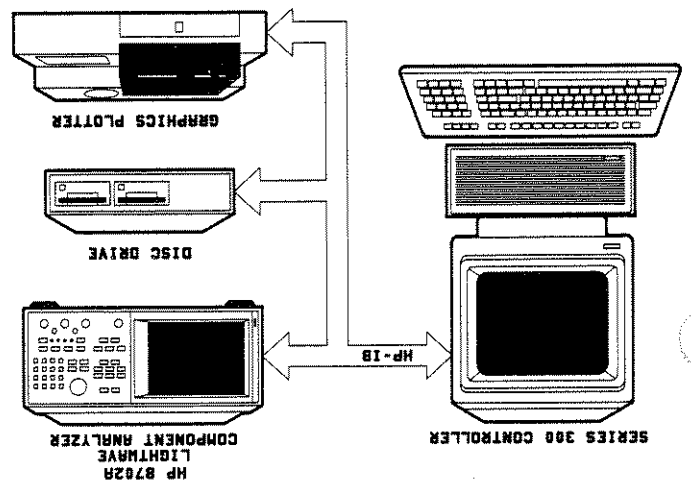

Figure 1. HP-IB connections in a typical setup.
1. Set up the HP 8702 as shown in Figure 1. Connect the HP 8702 to the computer with an HP-IB cable. The HP 8702 has only one HP-IB interface, but it occupies two addresses: one for the instrument, one for the display. The display address is the instrument address with the least significant bit complemented. The default addresses are 16 for the instrument, 17 for the display. Devices on the HP-IB cannot occupy the same address as the HP 8702.